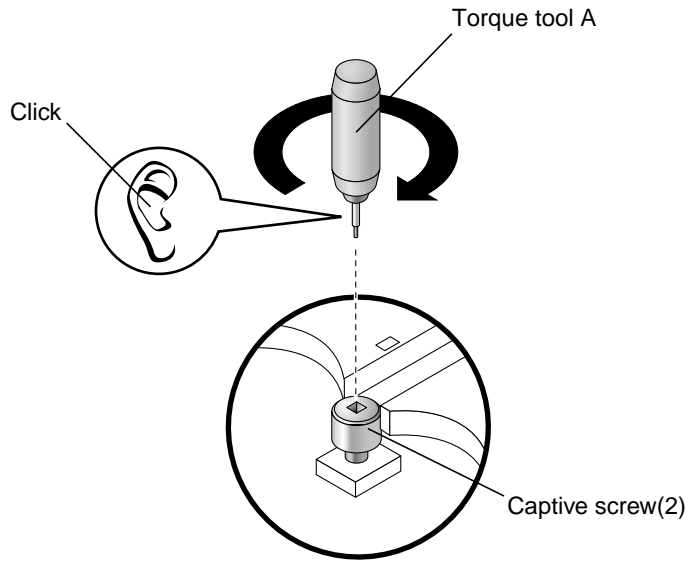

FIGURE 16 Torque Tool A Clicks When the Captive Screws are Correctly Torqued
12. Repeat steps 10 and 11 until torque tool A clicks (see FIGURE 16).